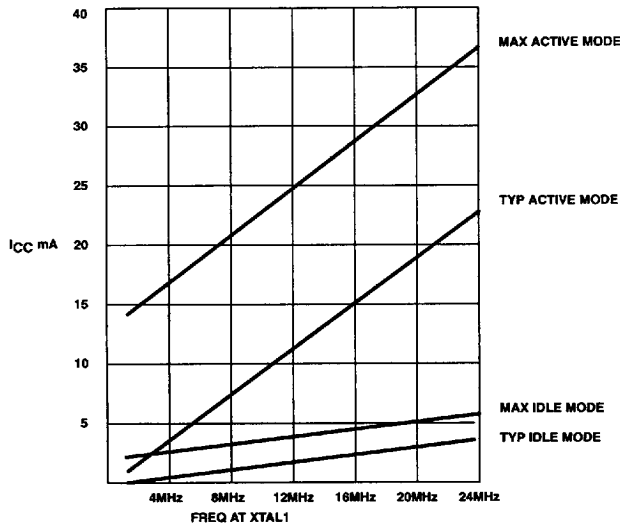

Figure 9.  $I_{CC}$  vs. FREQ
8.  $I_{CCMax}$  at other frequencies is given by: Active mode:  $I_{CCMax} = 0.94 \times \text{FREQ} + 23.72$ ; Idle mode:  $I_{CCMax} = 0.14 \times \text{FREQ} + 4.32$ , where FREQ is the external oscillator frequency in MHz.  $I_{CCMAX}$  is given in mA. See Figure 9.
9. See Figures 9 through 12 for  $I_{CC}$  test conditions.